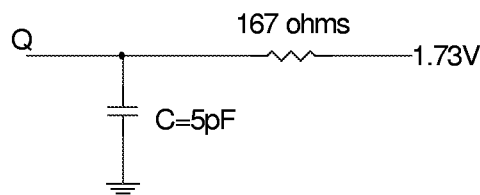

Fig. 2 Output Load Equivalent
6. 'LZCE, 'LZWE, 'LZOE, 'HZCE, 'HZOE and 'HZWE are specified with CL = 5pF as in Fig. 2. Transition is measured ±200mV from steady state voltage.